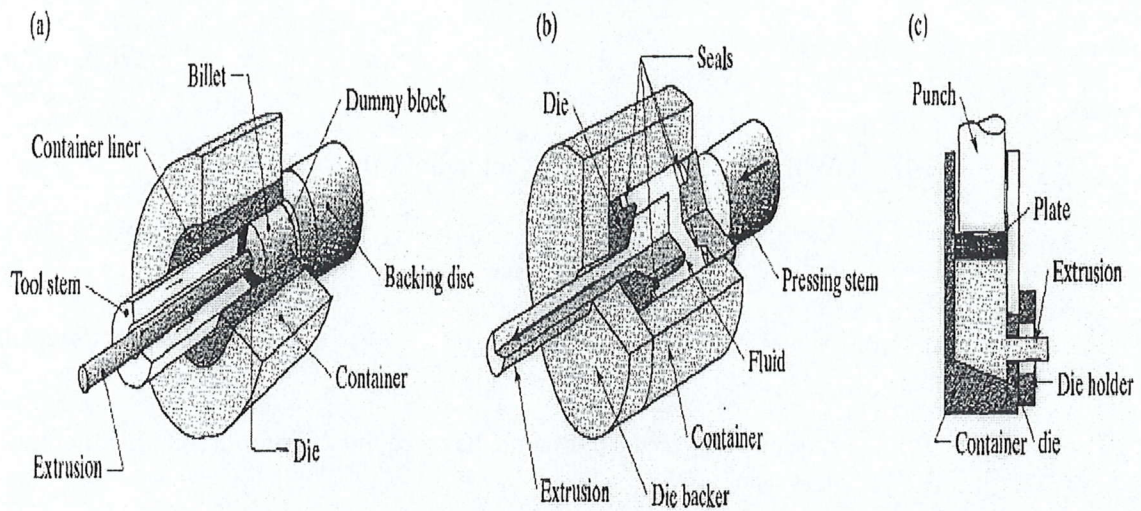

Figure 2: (a) indirect, (b) hydrostatic, (c) lateral
2. Several types of extrusion are shown in **Figure 2**.
- (c) Describe products that can be made using the lateral extrusion process shown in **Figure 2(c)**.